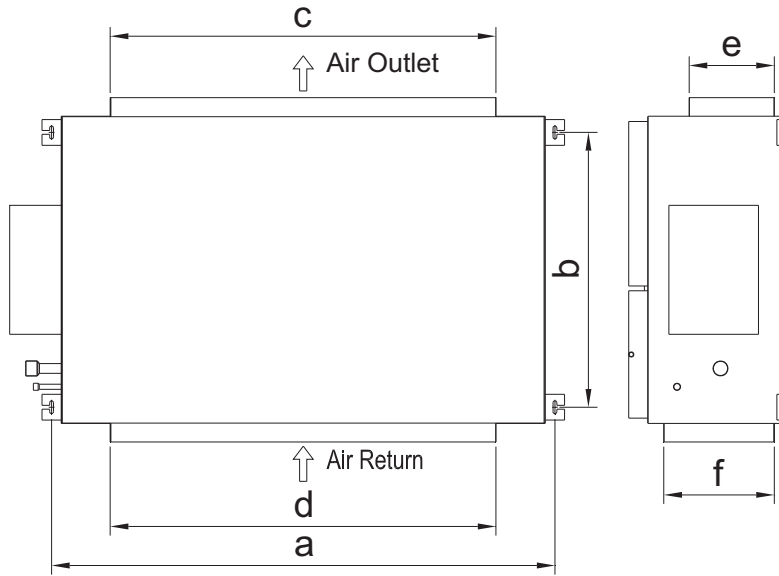

Fig. 1
1). The dimensions of installation hole and the intake/outlet port are shown in Fig. 1 and Table 1.